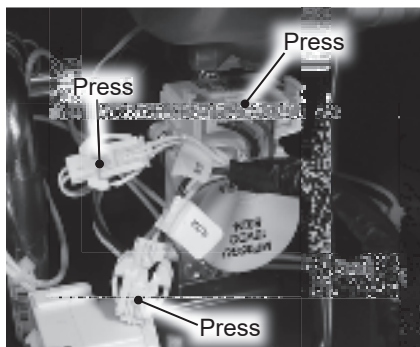

Figure 217 - Locating wiring harnesses
16 Locate the flow control valve at the bottom right side of the water heater as shown in Figure 217. Disconnect the three (3) wiring harnesses from the valve marked:
22 Reconnect the three (3) wiring harnesses to the flow control valve previously disconnected in **Step 16**. Confirm wiring connections are secure. See Figure 217.